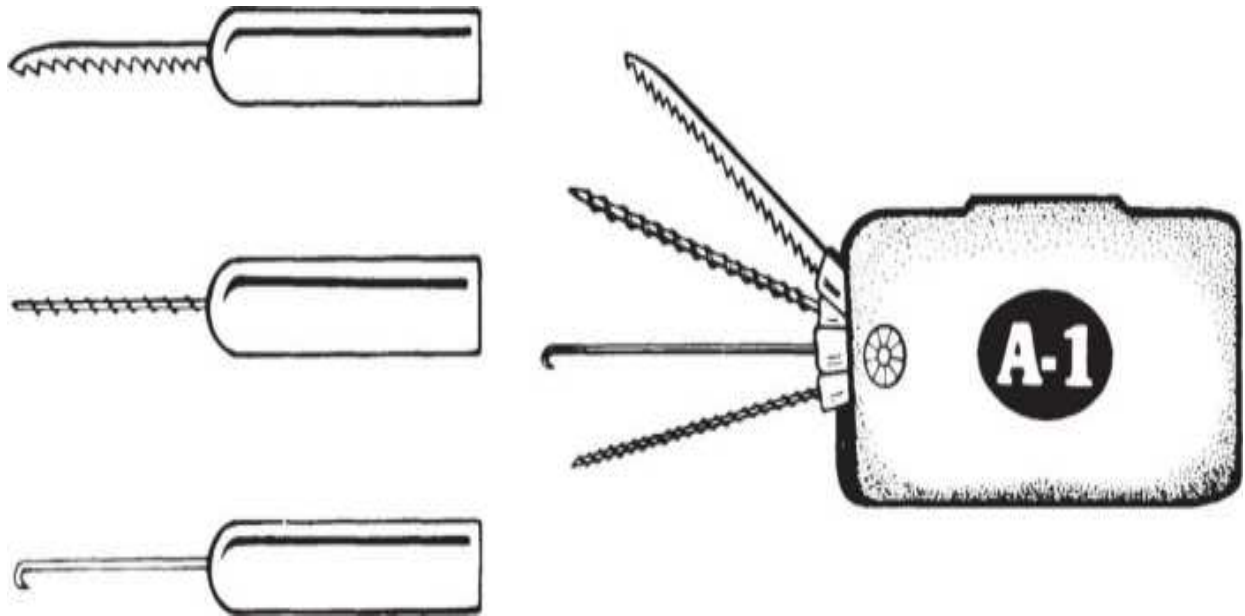

**Figure 2.29** Broken-key extractors are useful for removing broken key parts from locks. (*A-1 Security Manufacturing Corp.* )
- Broken-key extractors (Fig. 2.29 )